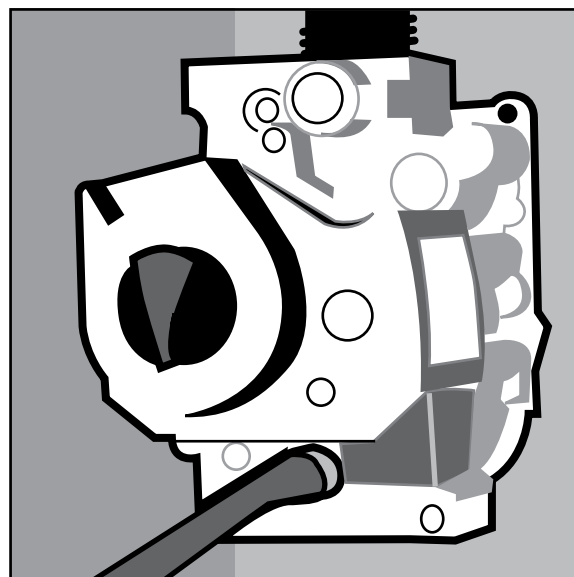

Figure F-1
2. Connect manometer or pressure gauge to gas valve outlet pressure tap (see Figure F-1). Place shut-off valve between gas valve and manometer (gas pressure can be introduced gradually to avoid pressure surge when gas valve opens that could blow liquid out of manometer).